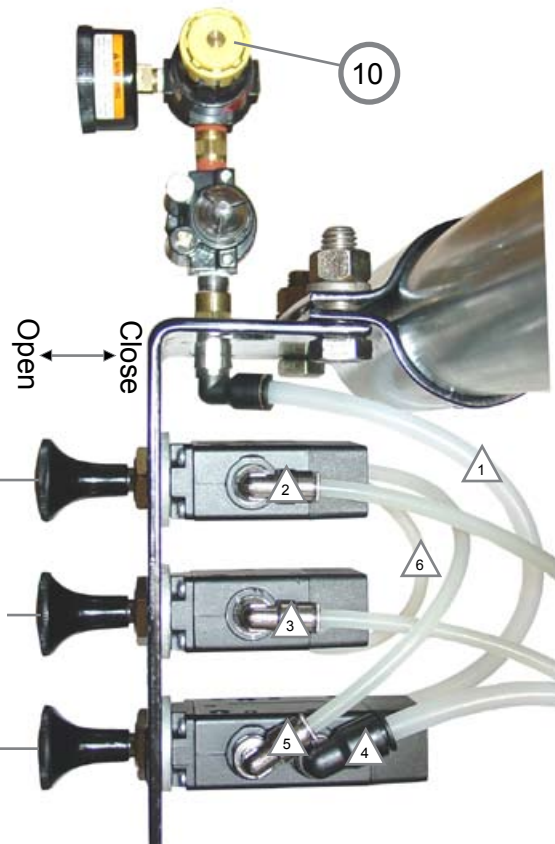

Figure 1*
1. Raise follower plate above the height of the drum by pulling out on the "Lift" valve. (see figure 1 or figure 2)
2. Center on opened drum under the inductor plate (item 2).
4. Open vent by turning knob (item 8) clockwise.